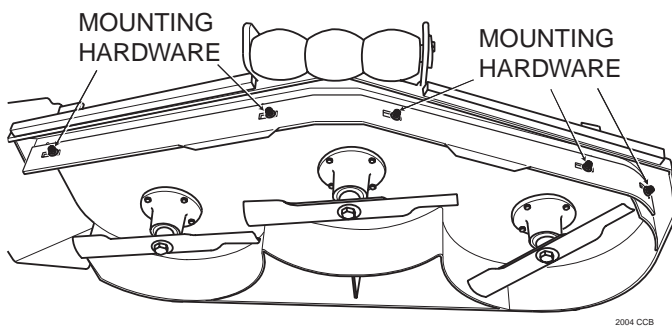

Figure 6-9 Custom-Cut Baffle
2. Remove the hardware securing the Custom-Cut Baffle to the cutter deck. (See Figure 6.9)